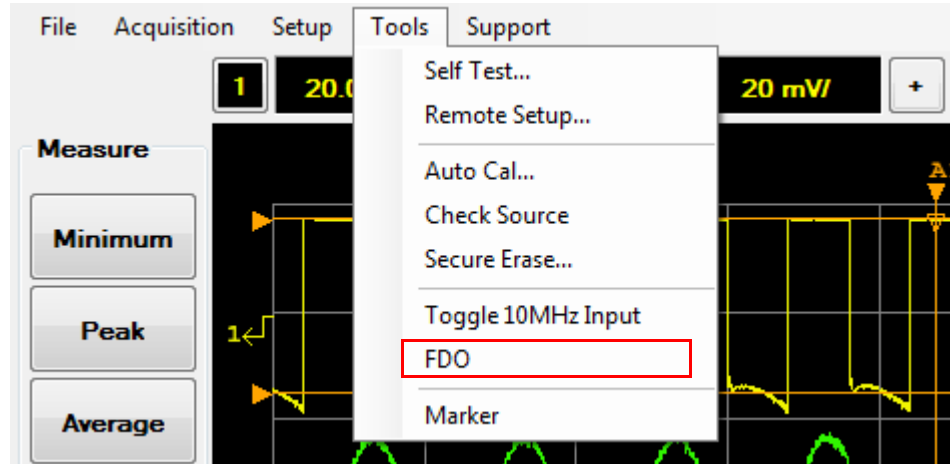

Figure 2-53 FDO selection in the Tools menu
- 1 Select **Tools > FDO** on the toolbar as shown in Figure 2-53.